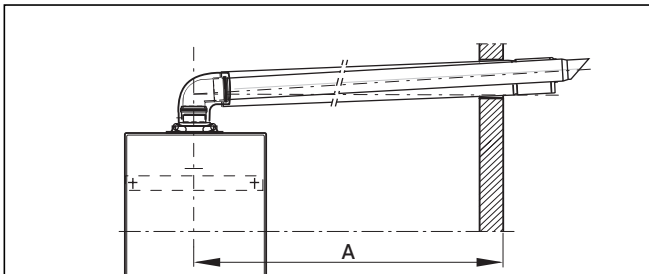

Fig. 3.9 Distance to external wall
- Measure the distance from the outside face of the wall to the centre of the fan outlet on the boiler (fig. 3.9). This is dimension A.
- For installations where the measured distance dimension A (fig. 3.9) is greater than 960 mm, an air/flue extension accessory will be required. The number of air/flue duct extensions which can be used depends on the boiler.